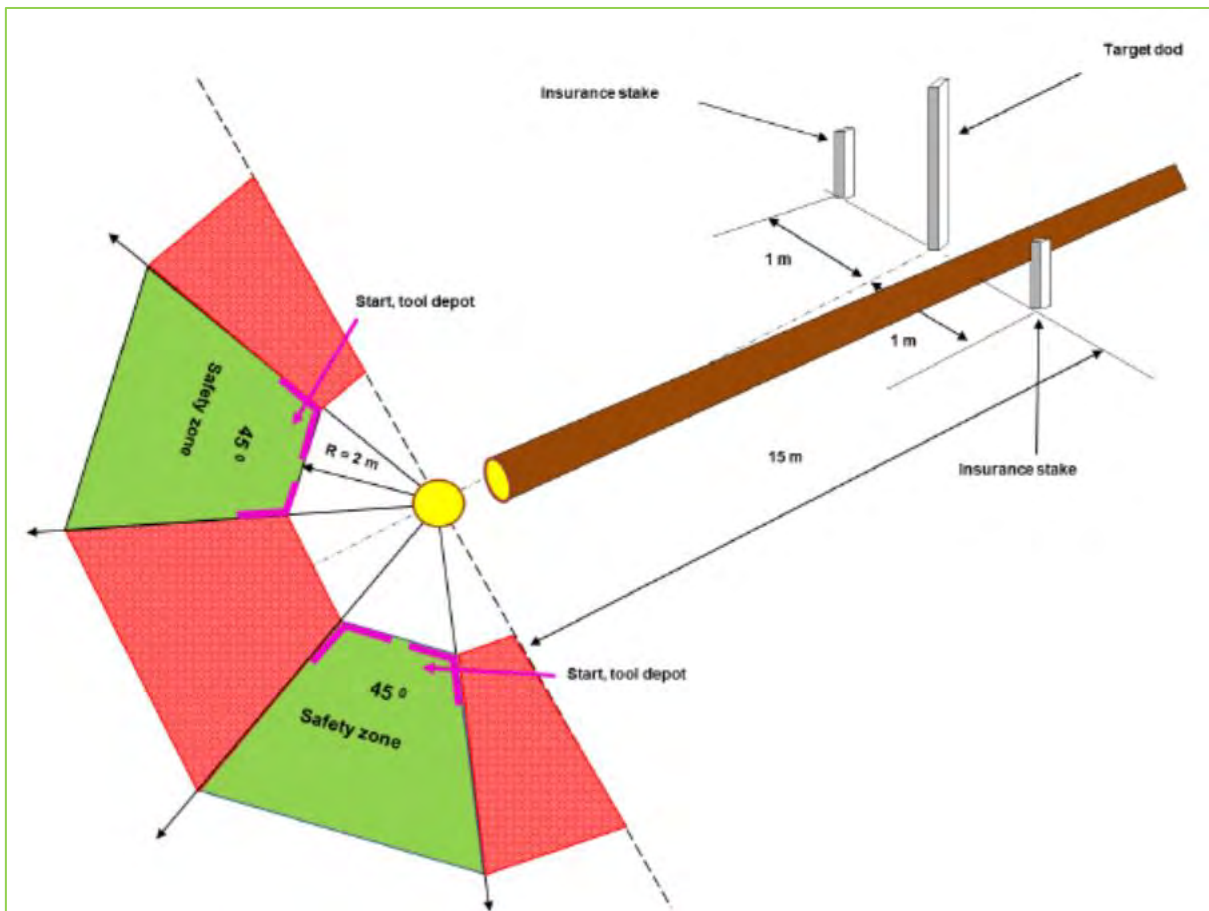

Figure 8: Safety zones and marking of the aiming point
- Indicating the starting lines (see figure 8)
- Marking the retreat zone to the left and right of the tree (see figure 8)
Safety zones will be marked on the ground. In the meantime the contestant may prepare the trunk (remove undergrowth, remove earth from trunk). The tools are to be placed in the safety zone before the start (see figure 8). After the start the contestant can move the tools as required. The time from the start signal to the moment the tree touches the ground/the contestant is behind the line and put the chainsaw on the ground is recorded with two stopwatches. If the contestant starts too early (before the signal), 20 penalty points will be deducted.
Before the tree has fallen to the ground, the contestant shall move to one of the safety zones, a sector of 45°, whose axis is at a 45° angle to the axis of the planned felling direction and at least 2 m away from the center of the tree stump. The forbidden zone is the area that covers an angle of 45° on either side of the sector around the axis of the planned felling direction. Depending on the danger, the contestant can retreat to either one of the safety zones (see figure 8). The participant remains in the safety zone so that the correct place of retreat can be measured. He should wait for the referee to issue instructions.